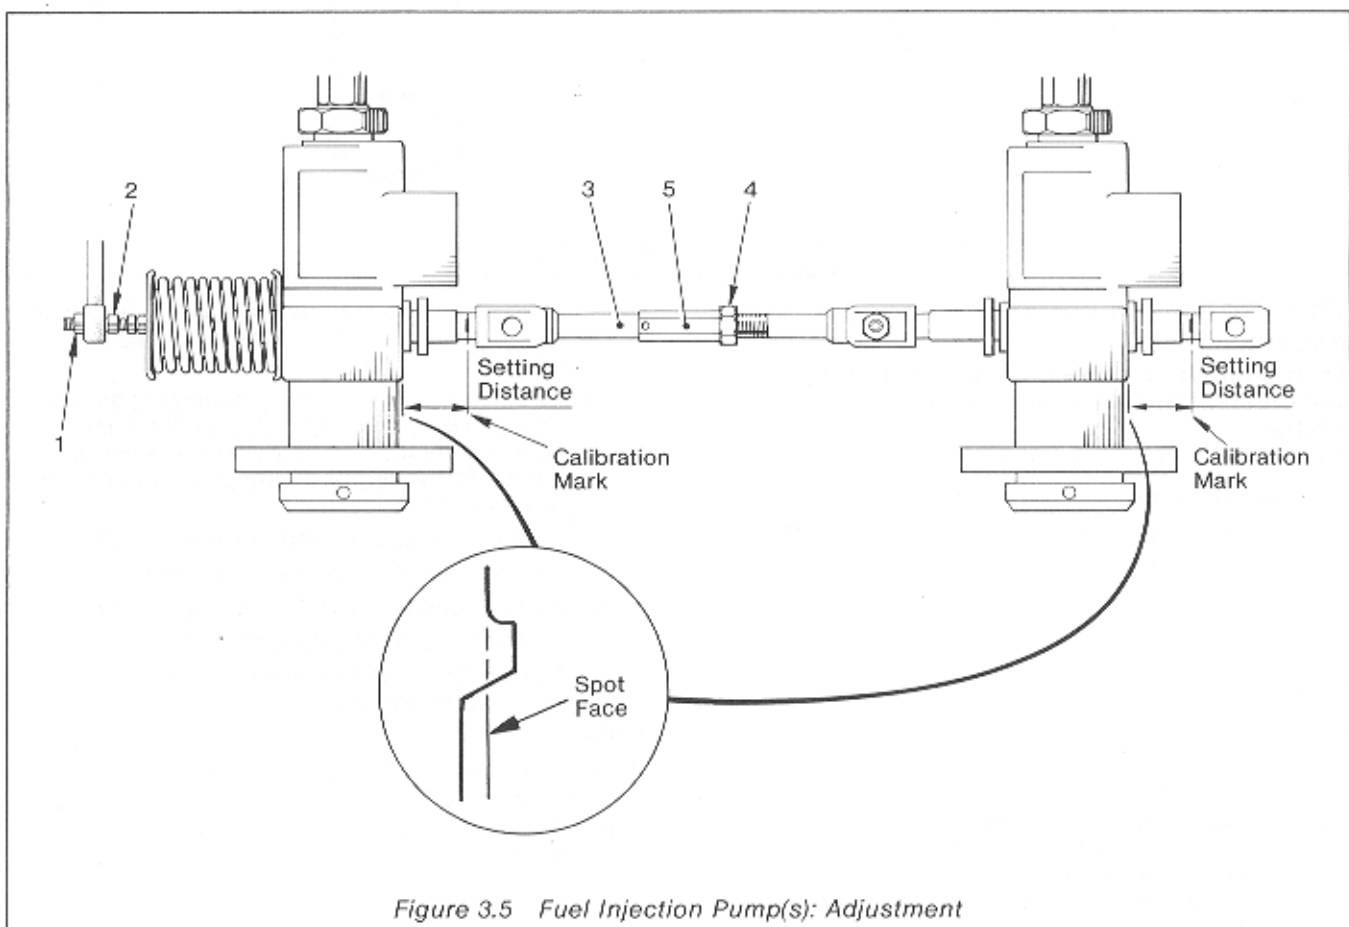

Figure 3.5 Fuel Injection Pump(s): Adjustment
Adjustment (Figure 3.5)
- (1) Remove the four 5/16 in BSF bolts and spring washer retaining the fuel pump bracket cover. Take extra care when removing the cover on which a speed control is mounted.
- (2) Secure the fuel injection pump rack with the calibration mark (Figure 3.5) 20.6 mm (13/16 in) from the spot face on the pump body, not the rack bush.